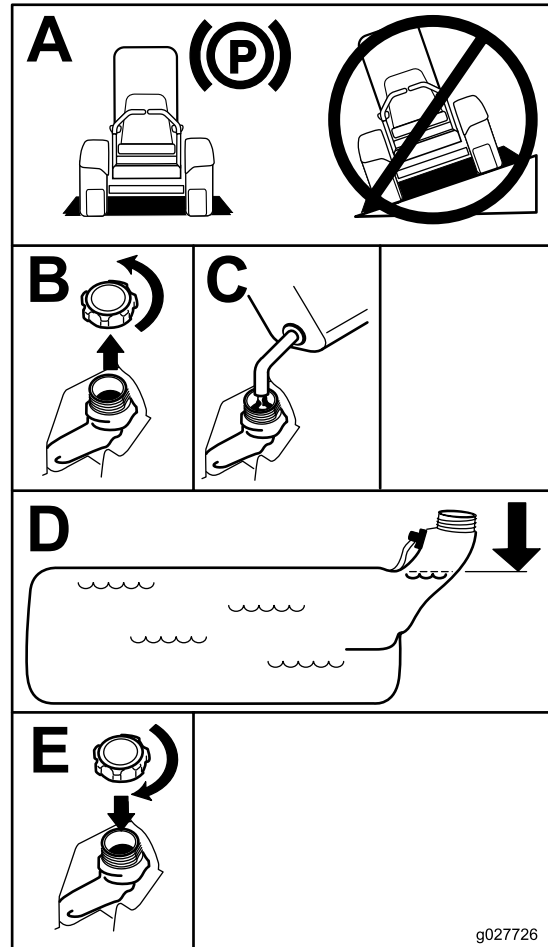

Figure 7
- Fill the fuel tank to the bottom of the filler neck (Figure 7).